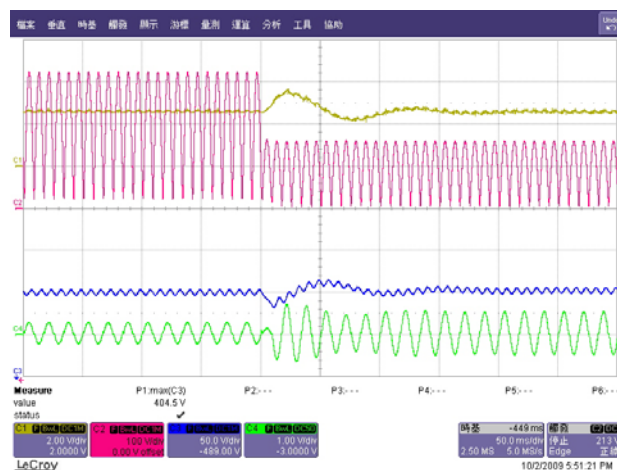
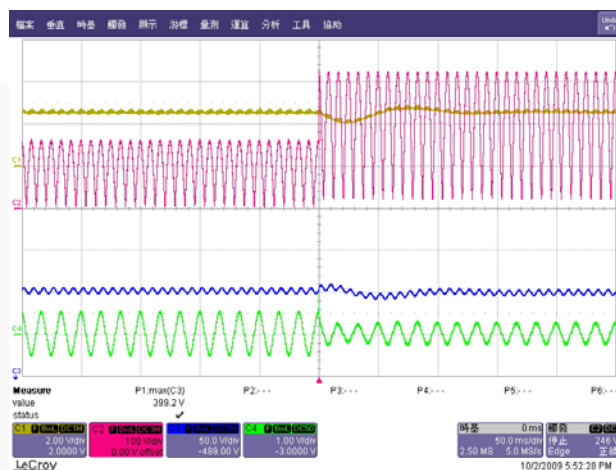

Figure 15. 230VAC to 115VAC Line Transient
Figure 16. 115VAC to 230VAC Line Transient
6. Figure 15 and Figure 16 show the line transient operation and minimal effect on the output voltage due to the line feed forward function. When the line voltage changes from 230VAC to 115VAC, 14.5V (3.72% of nominal output voltage) voltage undershoot is observed. When the line voltage changes from 115VAC to 230VAC, almost no voltage undershoot is observed.